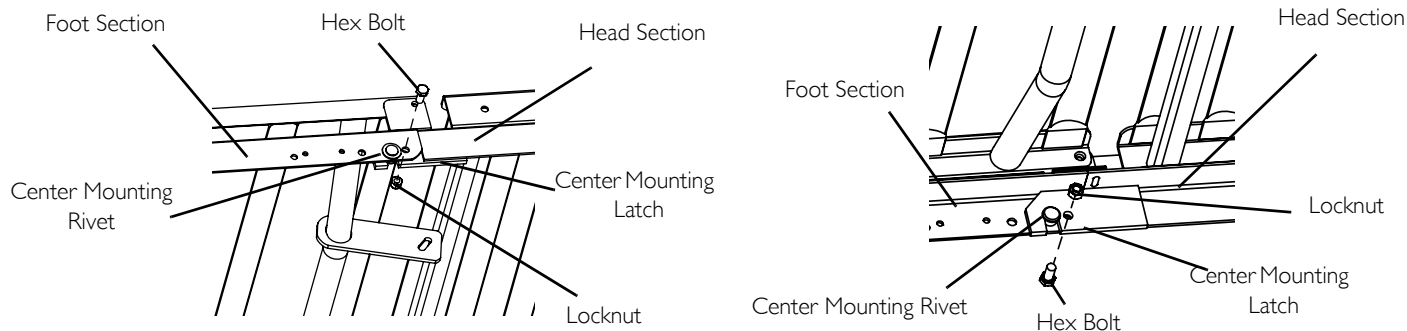

FIGURE 5 Securing Head and Foot Sections Together
9. Align mounting holes near rivet and install hex bolt and locknut. Securely tighten. Repeat for opposite side (FIGURE 5).